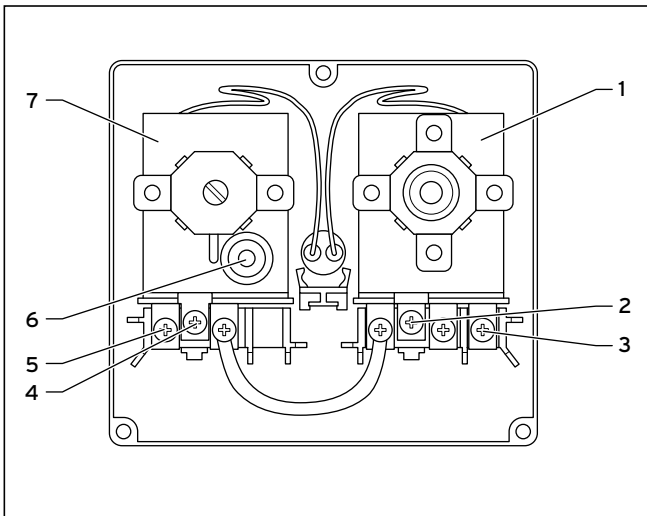

Fig. 5.8 Cylinder thermostat and thermal cut-out (TCO) for reheating circuit
- Connect the terminals **1** (cylinder thermostat) (**3 → fig. 5.8**) and **C** (reheating circuit TCO) (**5 → fig. 5.8**) to the terminal **CYL.** of the Vaillant control centre.